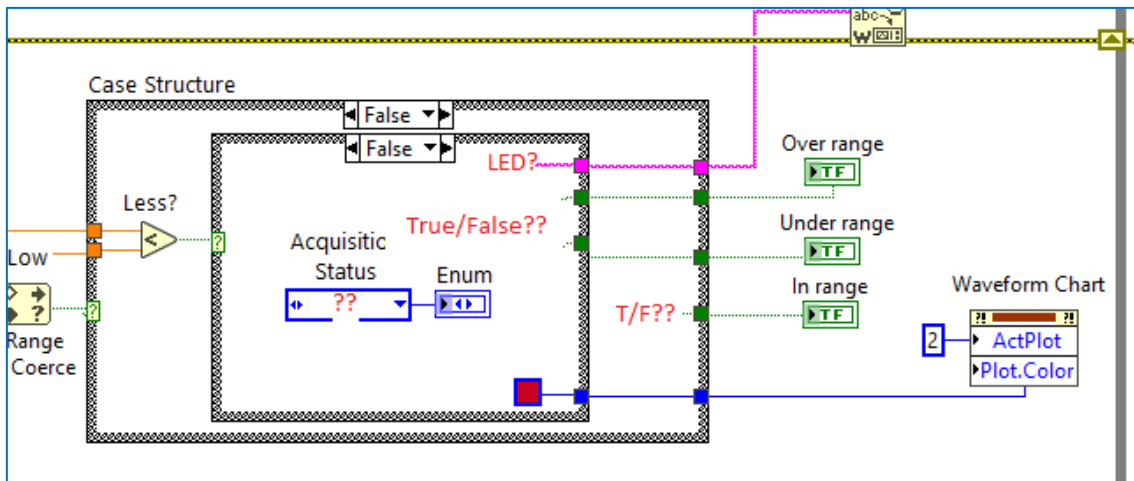

Figure 8. Block diagram view: Connections within the Case Structure (false/false)
- Chose a plot color for the input using the corresponding Property Nodes as shows in *Figure 8*.